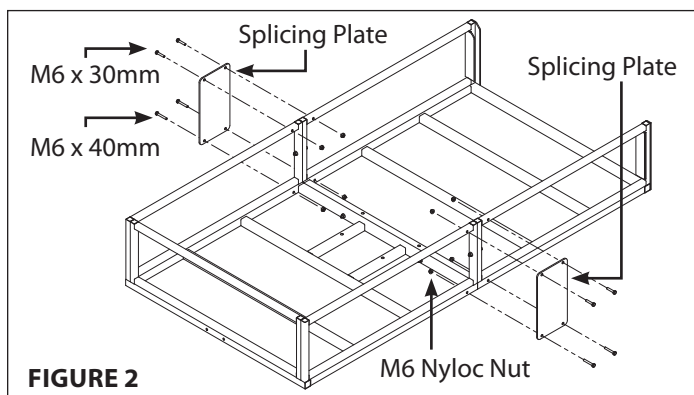

**FIGURE 1**
1. Attach front trailer frame (24787) and the rear trailer frame (24789) together using provided (2) M6 x 50mm bolts, (2) M6 x 65mm bolts, (4) M6 flange nyloc nuts, (4) M6 flat washers. **SEE FIGURE 1.**